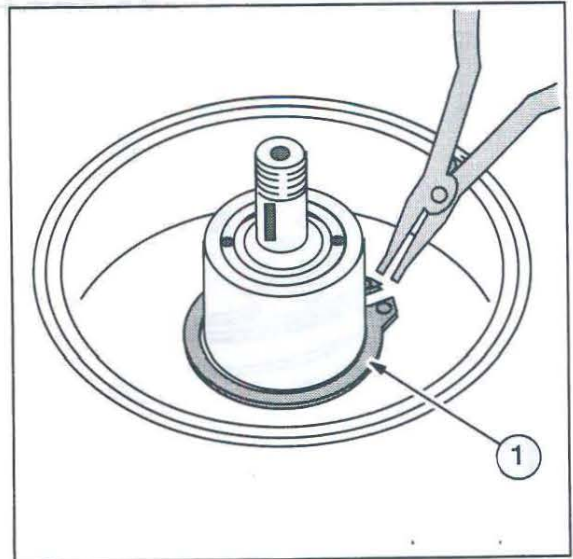

FIGURE 9-59
8. Remove the field coil retaining snap ring and field coil, Figure 9-59.